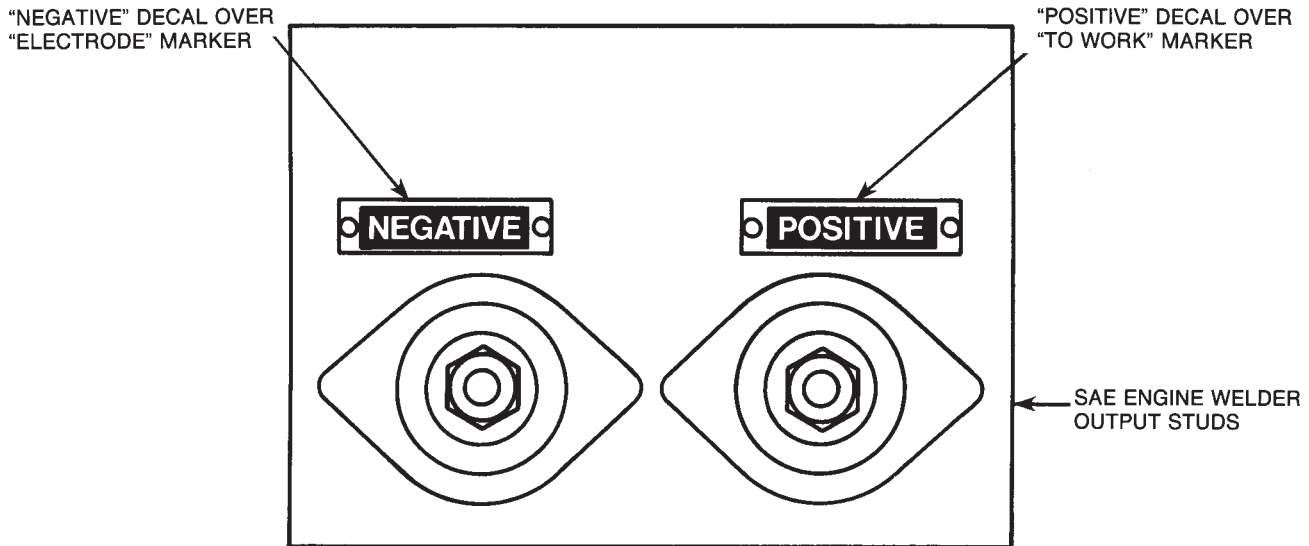

FIGURE 15 –Decal Mounting.
15. Peel backing from decals sent in mounting kit package and install as shown in Figure 15. On the (SAE-400 codes 10601, 10856 and 10884) and all WELD'N AIR reinstall the two guards that were removed at step 1. Be sure that the guards have a clearance of at least one half inch from any electrically live part. All new and existing leads must be routed so they are clear of any sharp edges on the guards.